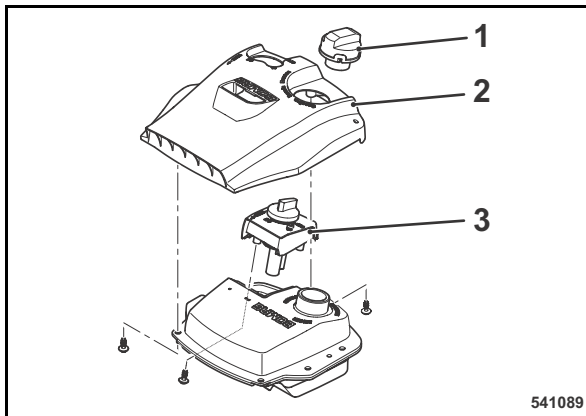

Fig. 54
- Clean the area around the tank cover, unscrew the tank cover (1) (Fig. 54).
- Unscrew 3 fastening screw from the cover (2) and take off the cover.